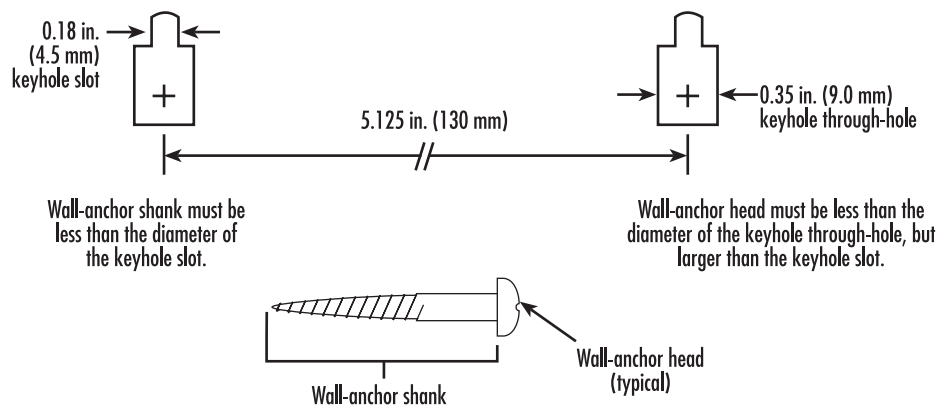

Figure 45. Wall-mounting hole dimensions
1. Using figure 45 as a guide, determine the positions of the mounting holes on the wall and mark the locations of the mounting holes.